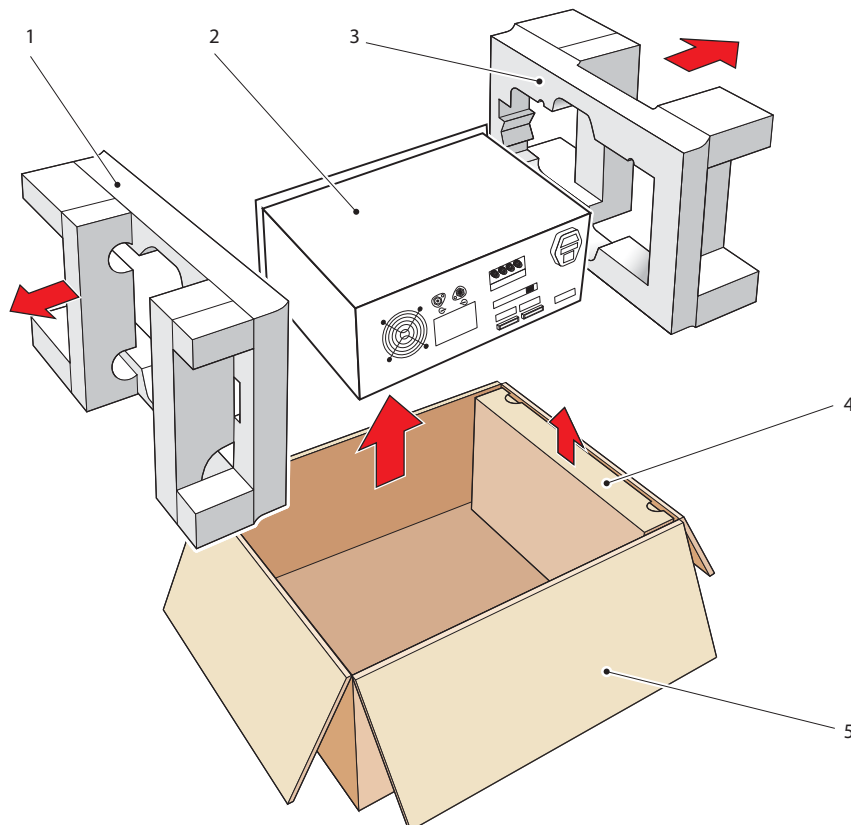

Figure 3 *S8000 Packing*
Open the box (5) and unpack carefully as follows (see *Figure 3*) :
1. Remove the accessories box (4).
2. Lift out the instrument (2) together with its end packing pieces (1) and (3).
3. Remove the end packing pieces (1) and (3) set the instrument down at the site of installation.